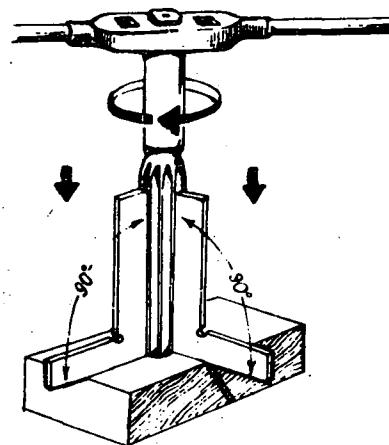

Fig. 2
- Push the reamer in, keeping it perpendicular to the axis of the hole (Fig. 2).
- d) Begin reaming by pressing gently, and turning slowly and steadily to the right (clockwise) (Fig. 2).